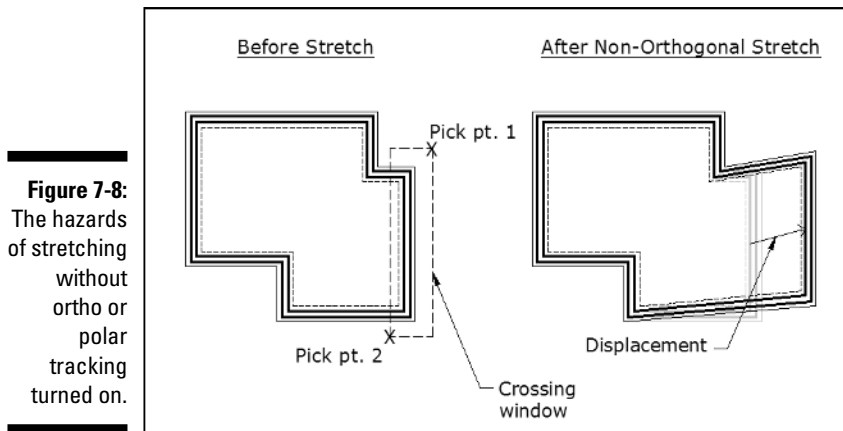

Figure 7-8: The hazards of stretching without ortho or polar tracking turned on.
- ✓ You usually want to turn on ortho or polar tracking mode before stretching. Otherwise, you'll end up stretching objects in strange directions, as shown in Figure 7-8.